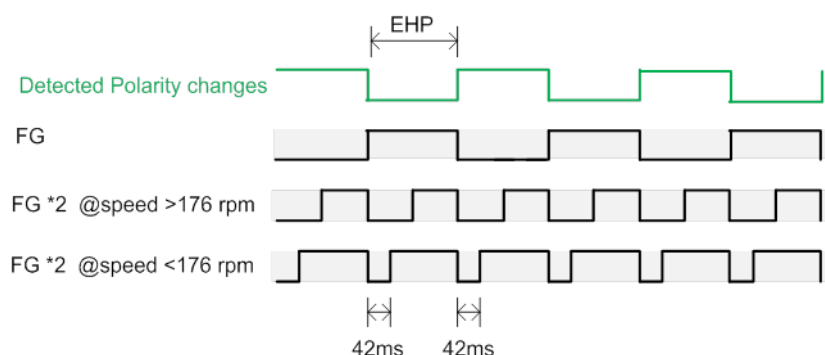

Figure 14 FG doubler output generation above and below 176rpm
1. In the default FG configuration (FG) the FG output is reflecting the electrical commutations.
- The maximum low time of the FG signal is limited to 42ms. Therefore at motor speeds lower than 176 rpm (2pp motor), the duty cycle of FG will not be 50% (see below Figure 14) .